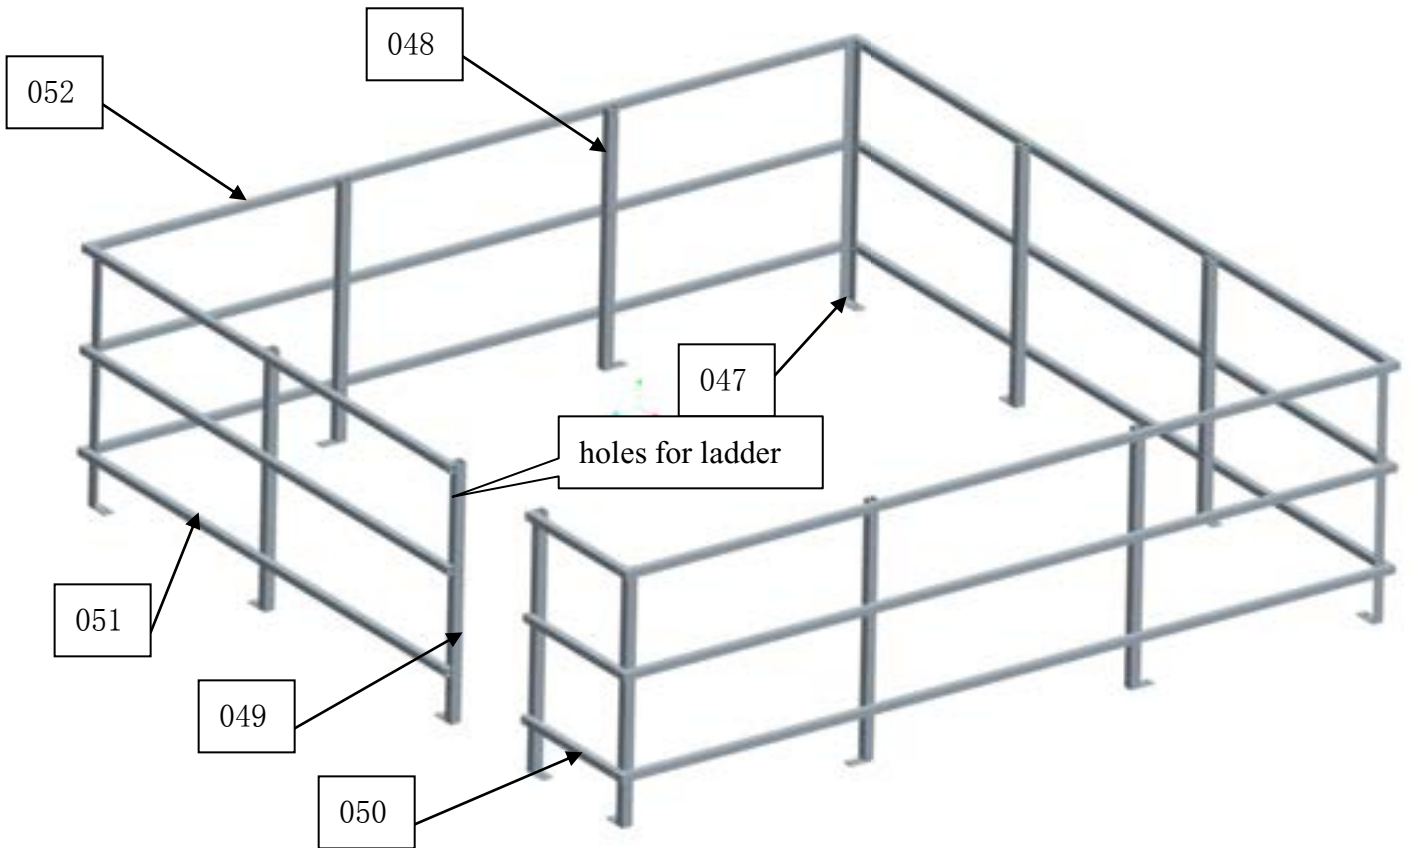

Figure 19
- 1) Handrail post on 4 corners are right angle steel, and the rest are square hollow. (see figure 19)